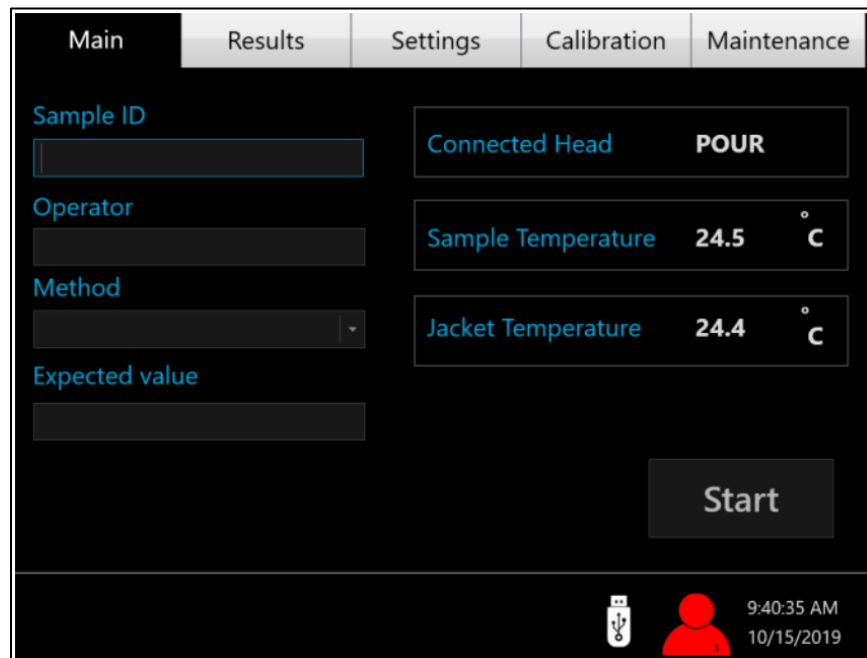
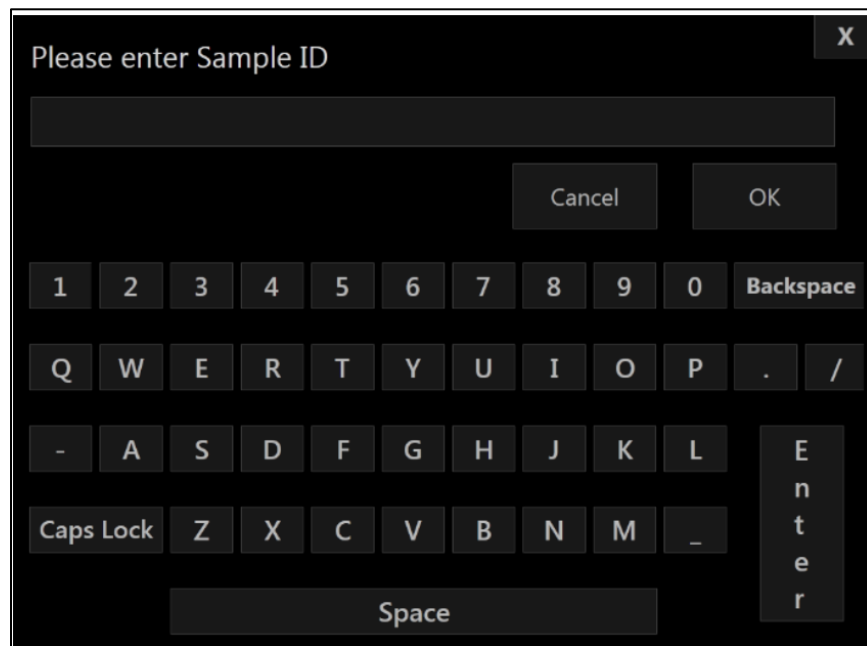

Figure 2. Main Screen
Figure 16. Keyboard
1. **Main.** Turn on the main power switch to the Automatic Cloud and Pour Point Tester (located on the back of the unit). The Main screen will appear on the touch screen control panel. See Figure 2 below. On this screen the Sample ID, Operator name, Expected Value and the Method can be entered. The main screen also shows which of the wireless heads is connected as well as the Sample and Jacket Temperatures.
1. **Starting the Test.** A test can be started from the Main screen Tab that was shown in Figure 2. Enter in the Sample ID, Operator, Expected Value and select the test method from the dropdown menu. When you tap the boxes to enter information a keyboard will appear as shown in Figure 16.